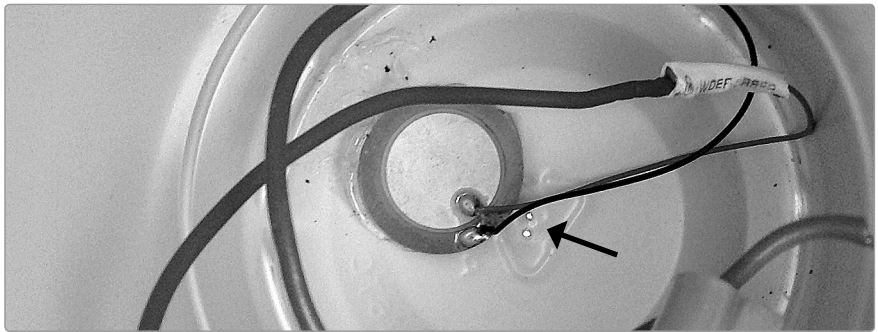

FIGURE 1-9: *Gluing down the pickup's piezo element. Note that the two pinholes have been left clear.*
Step 8 Now, let's install the pickup. Squeeze a pea-sized dollop of silicone-based glue onto the brass front of the piezo element, and press it into the bottom of the cup. The edge of the piezo should be close to the pinholes from Step 1 without covering them, as shown in Figure 1-9. Set this aside. Most brands of silicone-based glue will set up in 30 minutes, although you want to allow a full 24 hours for it to dry completely. If even 30 minutes is too long to wait, then it's fine to use double-stick tape instead.